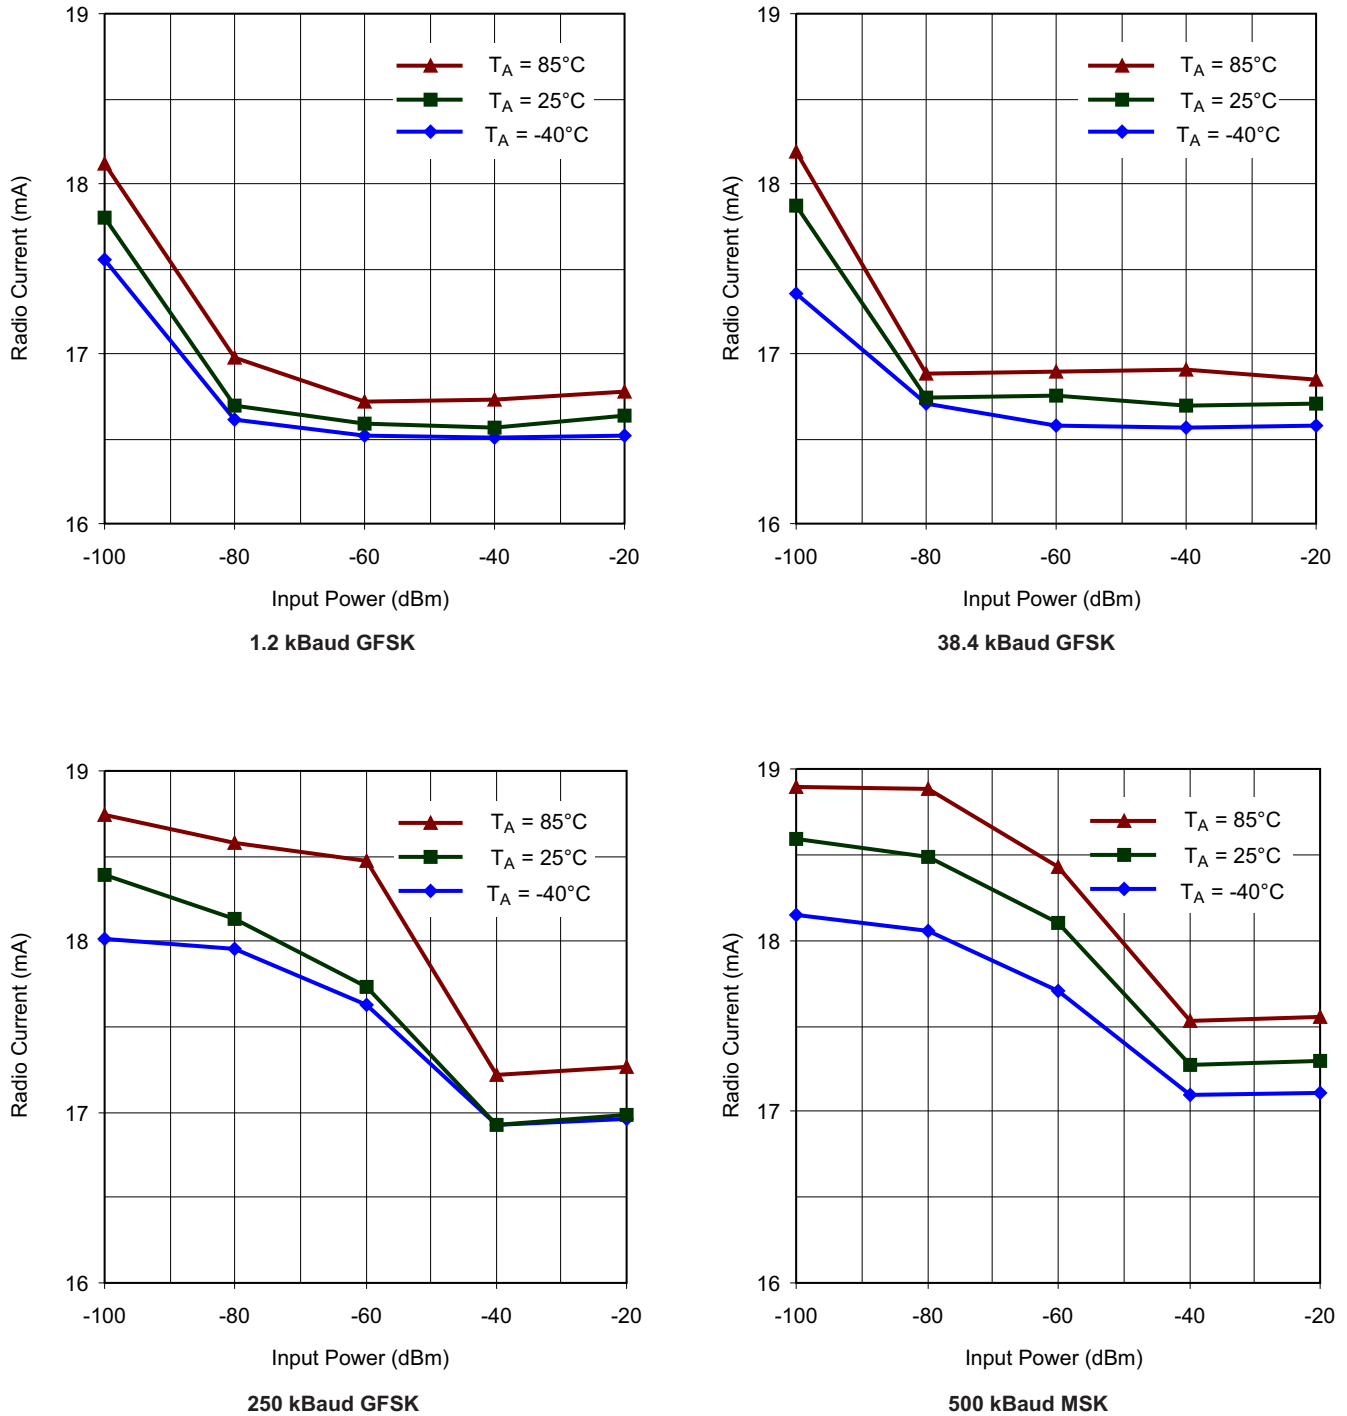

Figure 5-22. Typical RX Current Consumption Over Temperature and Input Power Level, 868 MHz, Sensitivity-Optimized Setting
(1) All measurement results are obtained using the EM430F6137RF900 with BOM according to tested frequency range (see Table 7-1).
(2) Reduced current setting (MDMCFG2.DEM\_DCFLT\_OFF = 1) gives a slightly lower current consumption at the cost of a reduction in sensitivity. See Section 5.53 through Section 5.56 for additional details on current consumption and sensitivity.
(3) For 868 or 915 MHz, see Figure 5-22 for current consumption with register settings optimized for sensitivity.